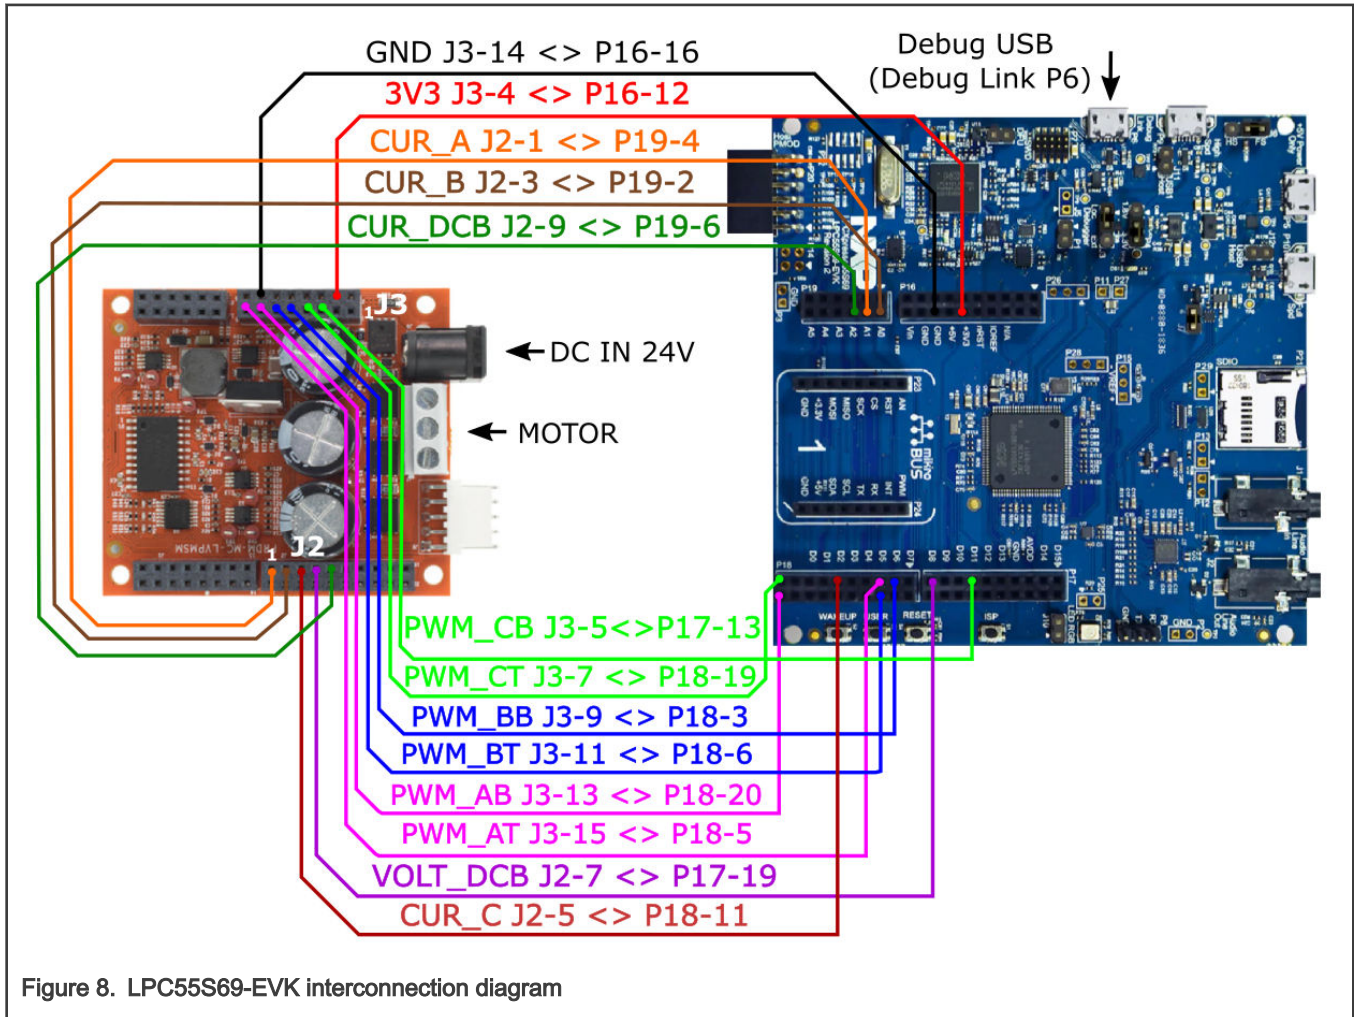

Figure 8. LPC55S69-EVK interconnection diagram
1. Wire the FRDM-MC-LVPMSM power stage to the LPC55S69-EVK board according to the pin assignment (Table 5) and the interconnection diagram (Figure 8).